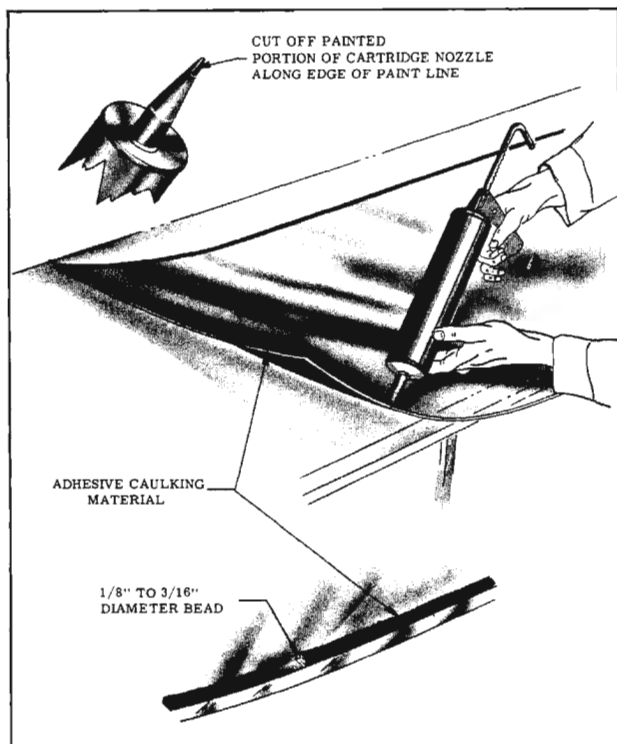

Fig. 16-216 Adhesive Caulking Application
4. Cut off painted tip of cartridge nozzle along edge of paint line. (Fig. 16-216)
6. Carefully apply a smooth continuous bead of caulking material on inside surface of glass next to edge completely around glass. (Fig. 16-216) Caulking material should be between 1/8" to 3/16" dia.